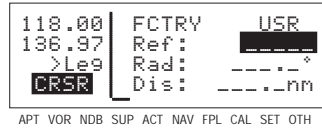

Figure 4-90
5. Press **ENT**. The display will change to a format like figure 4-90 with the cursor over the reference waypoint field.